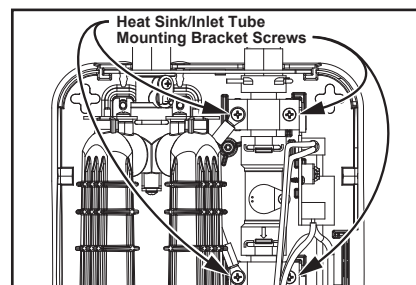

Figure 43 - Heat-sink/inlet tube mounting bracket screws.
Locate the four mounting screws securing the heat-sink/inlet tube mounting brackets. Use a Phillips screwdriver to remove the four screws and place the brackets to the side. The assembly can now move freely. See Figure 43. **NOTICE:** Secure the heat-sinks in place for the next step by reinstalling the two left side bracket screws. DO NOT tighten screws.
**5** Secure the inlet in place with the heat-sink/inlet tube brackets. Hand tighten the Phillips screws in place, DO NOT over tighten. See Figure 43, page 25.